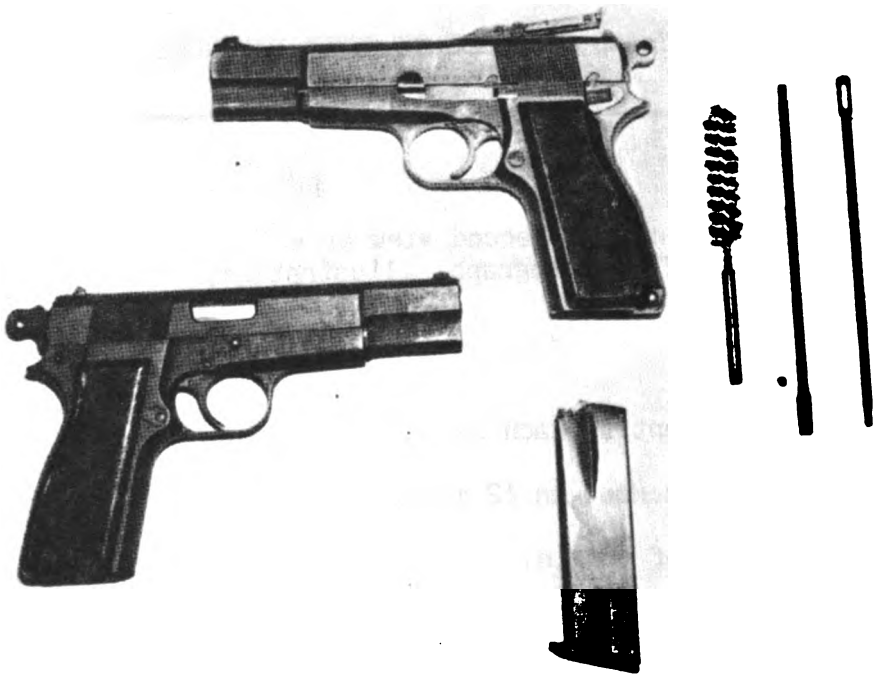

Figure 1
1. Identify the P35. (See fig. 1.)